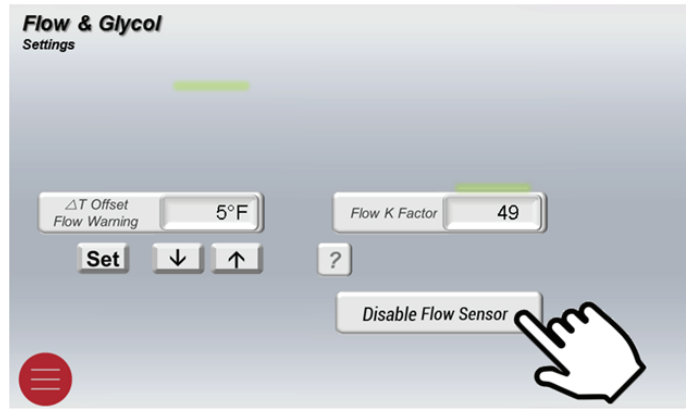

Figure 50. Disable Flow Sensor
3. You will see a “Disable Flow Sensor” button, press to disable. See **Figure 50**.